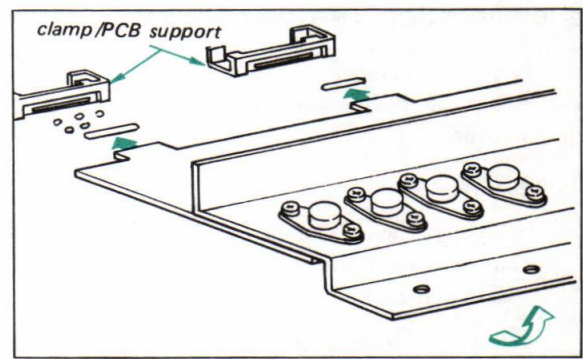

Fig. 2-19. Power amplifier/power supply board removal
2. Insert the tabs of the PCB into the opening in the chassis as shown in Fig. 2-19. The helps replacing or checking the components mounted on PCB.